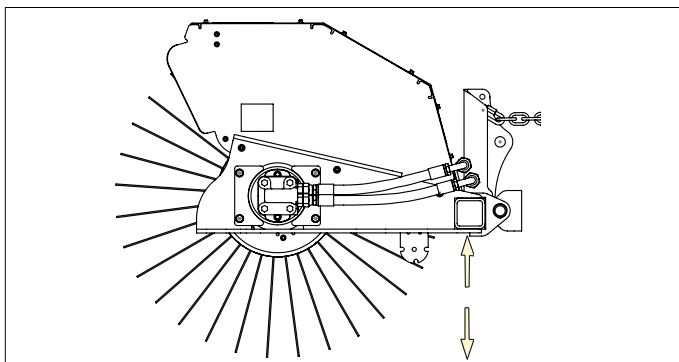

Figure 1
6. On each side, measure from the brush frame to the ground (figure 1). If measurements are not equal: